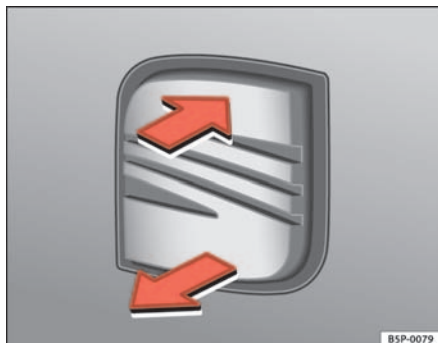
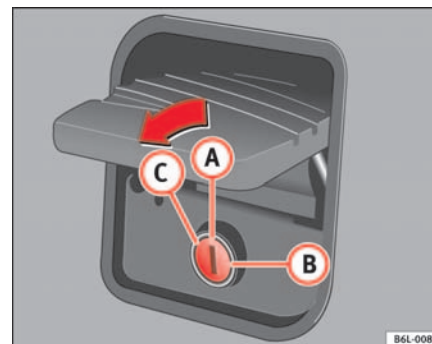

Fig. 49 Tailgate: Opening from the outside
Fig. 50 Closing the tailgate
- Pull on the release lever and lift the tailgate ⇒ fig. 49. The keyhole should now be in a vertical position ⇒ fig. 50 **A**.
When the keyhole **A** ⇒ fig. 50 is in a vertical position, the tailgate will open and lock automatically using the central locking system. Also, the tailgate may be opened and locked using a key.
When the keyhole is horizontal **B** ⇒ fig. 50, if the tailgate is closed it remains locked and can only be opened again using the main key.
To open the tailgate the key must be turned all the way **C** ⇒ fig. 50 in the direction of the arrow. In this position the key may not be removed from the lock.